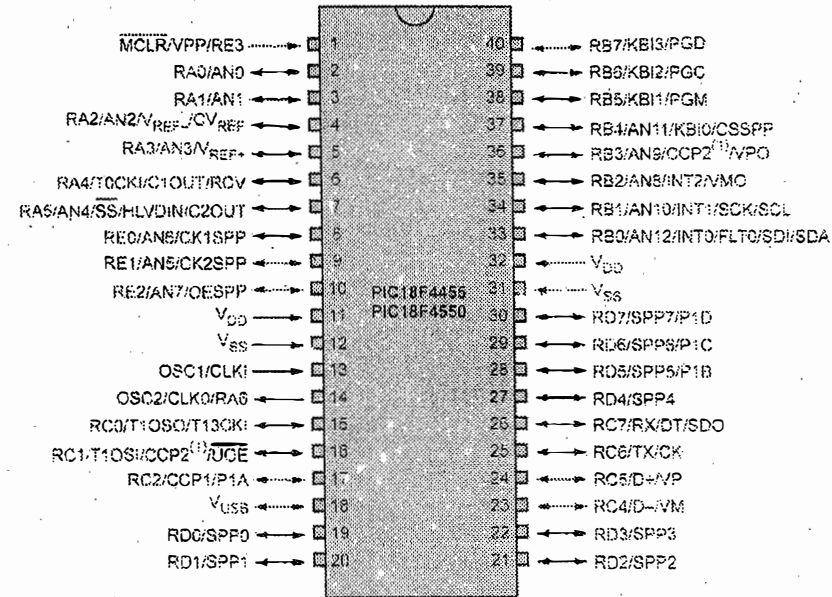

Fig. Q.10.1 : Pin out diagram
- It uses the dual in-line package with forty pins as shown in Fig. Q.10.1. The total forty pins and divided into different parts as port pins, reset, memory control and power supply. Out of 40 pins, 33 pins are dedicated to I/O functions with five ports with alternate functions. Rest of the pins are VDD, GND, OSC1, OSC2, and MCLR.
- **Note :** For more details of pin assignment please refer Fig. Q.10.1. Also according to device number pins are assigned with increased multiple functions.